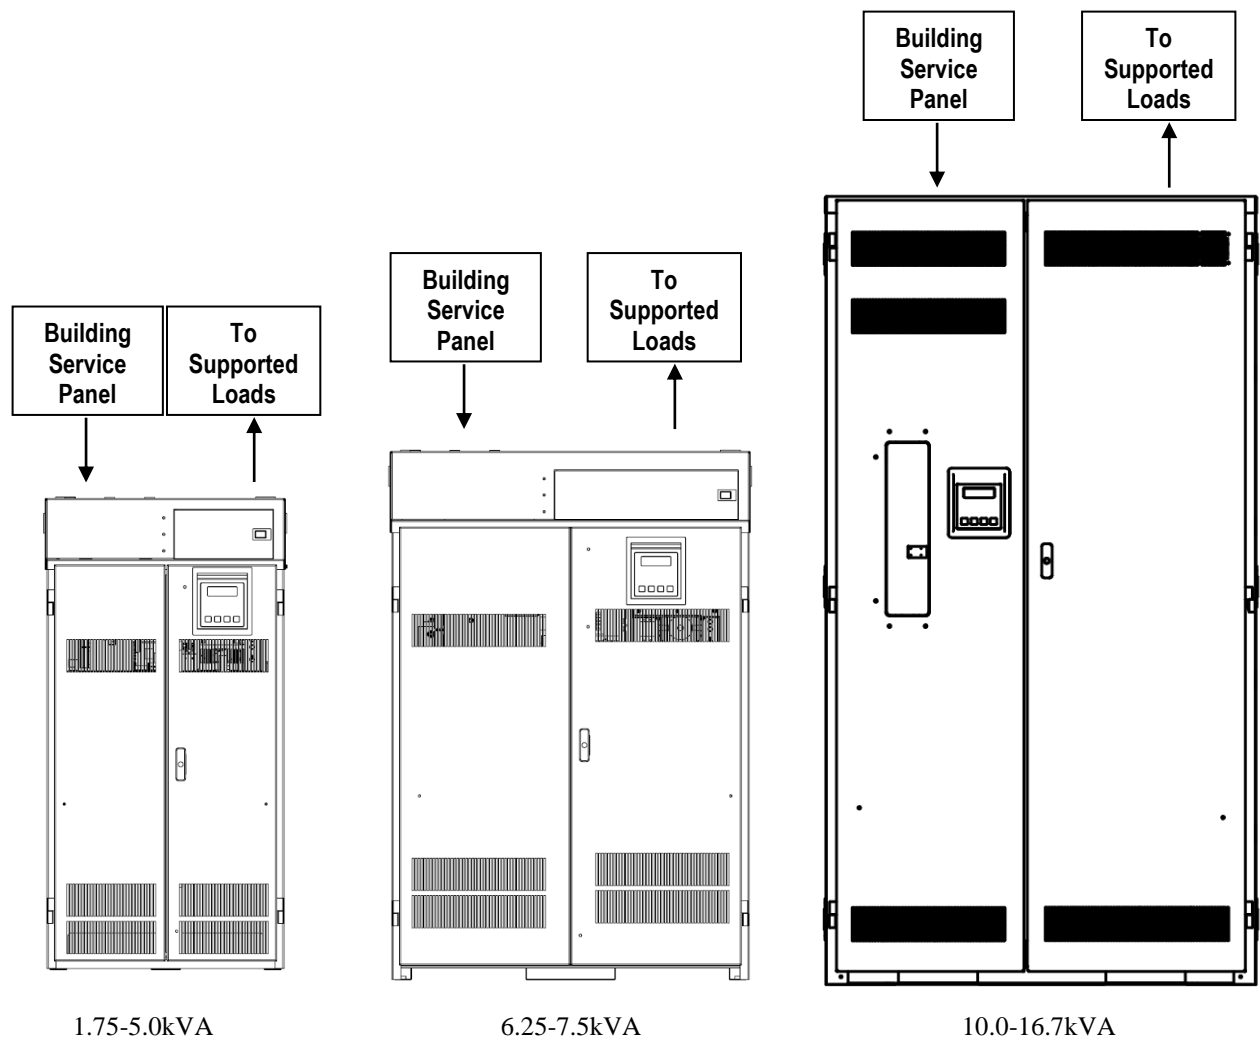

Figure 4.1 Typical Hardwired Installation
Figure 4.1 shows typical installations of system. Standard 1.75 kW, 2.5 kW, 3.75 kW, 5.0 kW, 6.25 kW, 7.5 kW, 10.0 kW, 12.5 kW, and 16.7 kW models **do not** have external battery cabinets.
9. Remove knockouts for AC Input and AC Output in the top or left and right side of the system (See figure 4.1). AC input conductors and AC output conductors must be installed in separate conduits, and emergency and non-emergency output circuits must be installed in separate conduits.